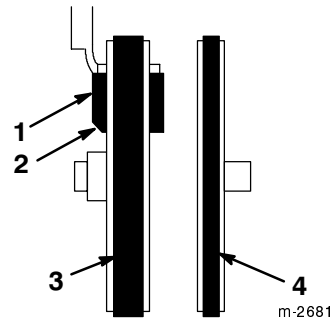

Figure 29
15. Make sure that the brake pad is properly installed on the brake arm. Position the angled cutoff on the brake pad as shown in Figure 29.
12. Make sure that the brake pad is properly installed on the brake arm. Position the angled cutoff on the brake pad as shown in Figure 29.